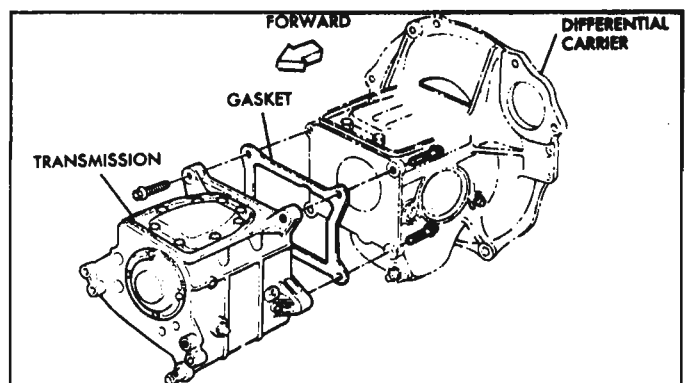

Fig. 6-9—Three Speed Transmission—Differential Carrier Attachment
To separate the three or four speed transmission from the differential carrier, simply remove the four attaching bolts (fig. 6-9). Two bolts are driven from the transmission on the right side and the two left bolts are driven from the carrier side.
1. Apply a new gasket (fig. 6-9) to either the mounting face of the transmission or carrier with petroleum jelly.